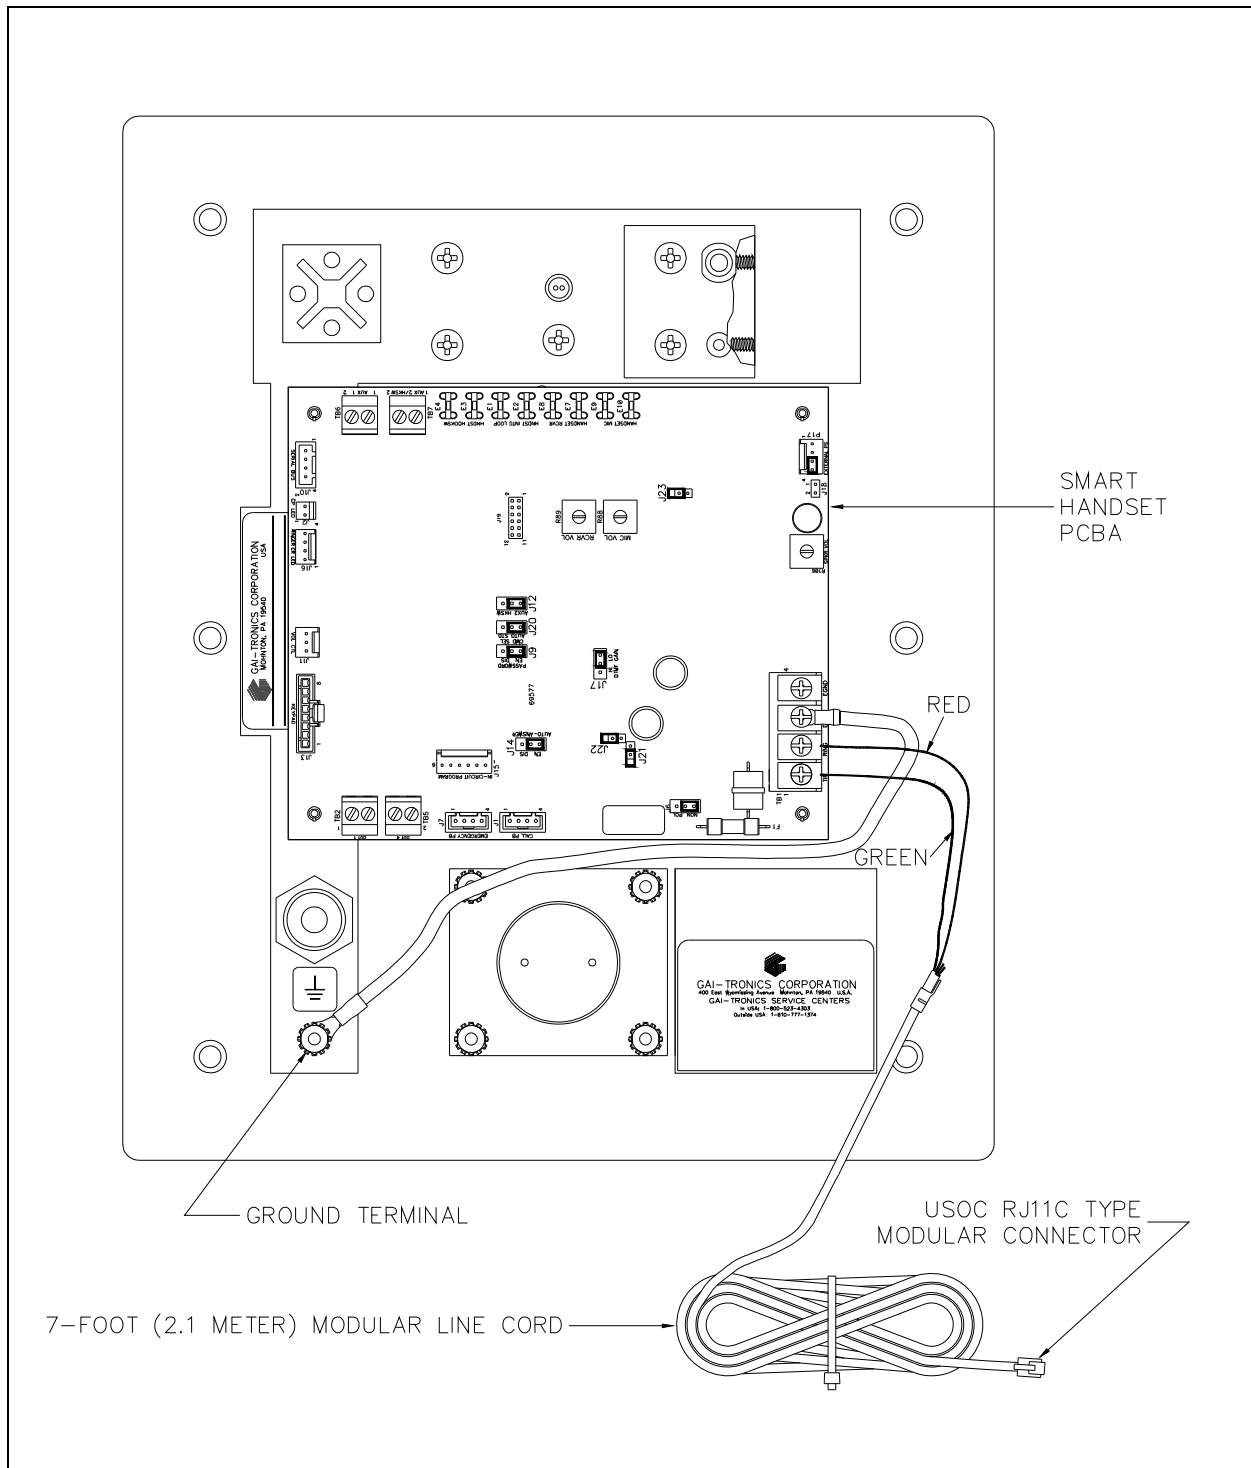

Figure 4. PCBA Connections for Models 276-005 and 277-005
1. Align the holes of the new PCBA with the snap-on nylon standoffs in the telephone, maintaining proper orientation. See Figure 4 as an example.
1. Align the holes of the new PCBA with the snap-on nylon standoffs in the telephone, maintaining proper orientation. See Figure 4.
4. If not previously installed, attach the ring lug of the (longer) ground cable provided to the ground stud on the front panel and the spade lug to terminal block TB1. See Figure 4.